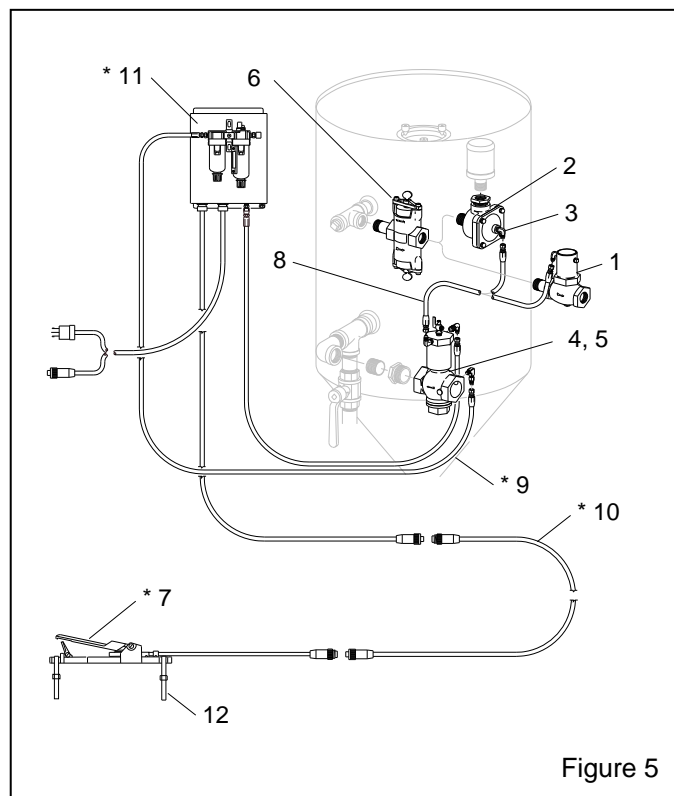

Figure 5
7.3 Standard, Non-ACS Systems, Figure 5